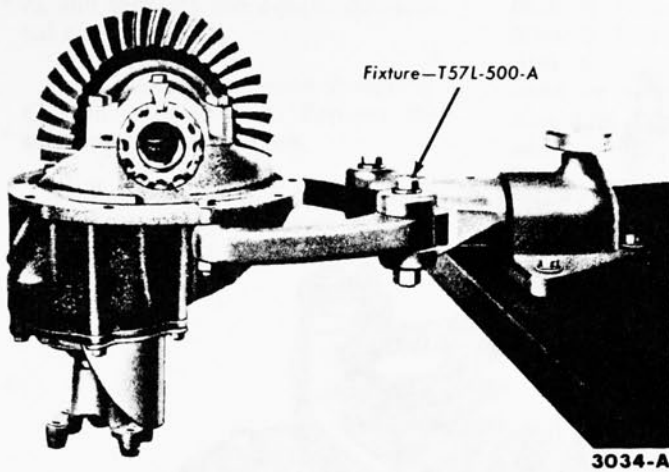

FIG. 2—Differential Carrier Mounted in Bench Fixture
3. Remove the axle shafts (Fig. 2, Part 5-1) and drive shaft.
Mount the carrier in the holding fixture shown in Fig. 2. Wipe the lubricant from the internal working parts, and visually inspect the parts for wear or damage.